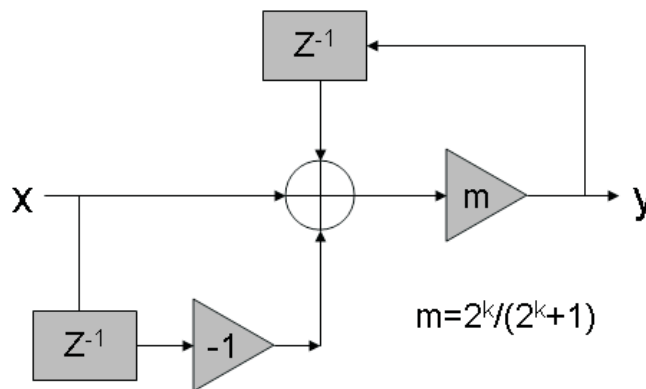

图 46. HP Filter Block Diagram
ADS5294 includes optional first-order digital high-pass (HP) IIR filter. 图 46 shows the device block diagram and transfer function.